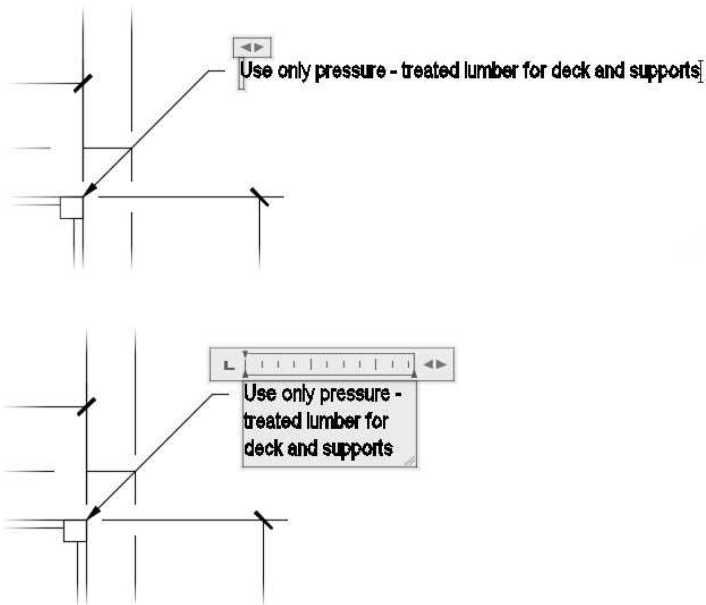

FIGURE 12.41: Multileader text with ruler toolbar (top) and expanded text box distributing text to several lines (bottom)
This displays a ruler with two outward-facing arrows above the multileader text (see the top of Figure 12.41).
8. Expand the arrows above the multileader text to the right to expand the text box, and distribute the text among several lines (see the bottom of Figure 12.41).